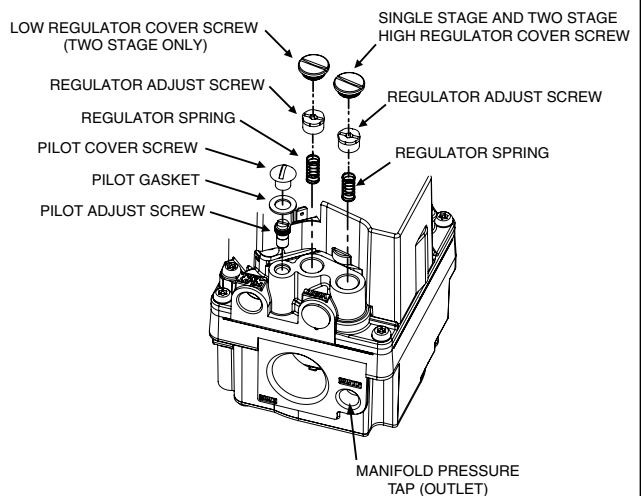

Figure 3. Regulator Spring & Adjustment Screw Removal
1. Remove both regulator cover screws. See Figure 3.